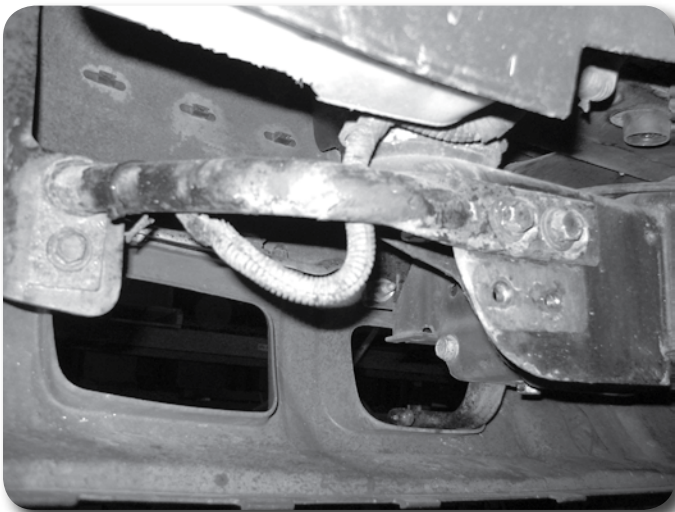

Figure 25
49. Loosely fasten the original outer support bracket to the new holes in the front body mounts with the factory bolts along with the 10mm nuts and 3/8" USS flat washers. **Figure 25** Also, attach the supports to the original location on the bumper with the factory hardware. Leave all hardware loose.